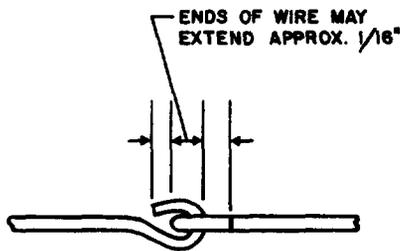

FIG. 3A-DETAILS OF HOOK CONNECTION
5.03 If the multiple strap wires connecting three or more relays in a row of relays are too short for connection to terminals of a 287-type relay added at the right end of the row as viewed from the wiring side, the strap wires may be extended by splicing additional lengths of wire to the strapping, using soldered hook connections as shown in Fig. 3A and 3B. Fig. 3A shows the details of the hook connection and Fig. 3B shows the position of the splices in the multiple strap wires. If a 287-type relay is added between 263- or 287-type relays, the splicing method for bridging the cuts in the multiple strapping is not recommended since two splices would be required in each strap wire. If the two splices were made, it would be difficult to maintain straightness of the strap wires and it is therefore preferable to replace the strap wires as required.